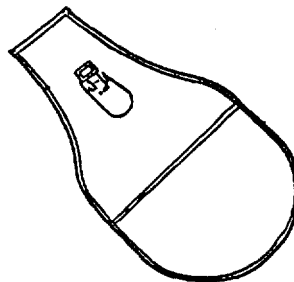

Figure 2-26. Drinking Water Storage Bag
- d. Drinking Water Storage Bag. The water storage bag ( See Figure 2-26) is constructed of plastic and has a capacity of 5 quarts of water. The bag comes complete with a buckle, snap fastener, and carrying strap for easy attachment to personnel or equipment.